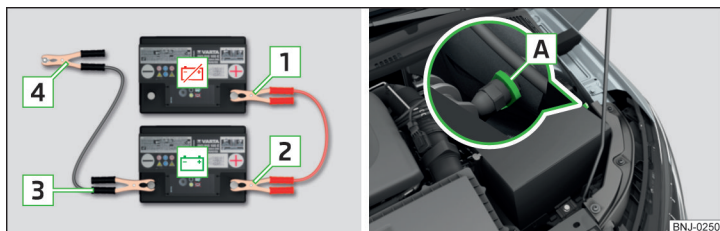

Fig. 188 Jump-starting: - Discharged battery, - power-supplying battery / ground point of the engine for the START-STOP system
- For vehicles **with** the START-STOP system, attach clamp **4** to the ground point of the engine **A** » Fig. 188.